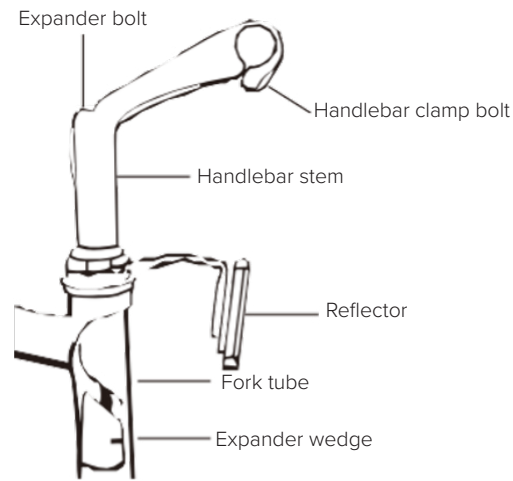

fig. 6
Step 3: Handlebar & Handlebar Stem Assembly (refer to fig. 6 and 7)
Since your cycle may be fitted with an adjustable, a standard stem or an A-head stem (refer to fig. 6), you must always check that all the bolts are tight before cycling. Based on the situation of the standard handlebar stem, please follow the instructions below: